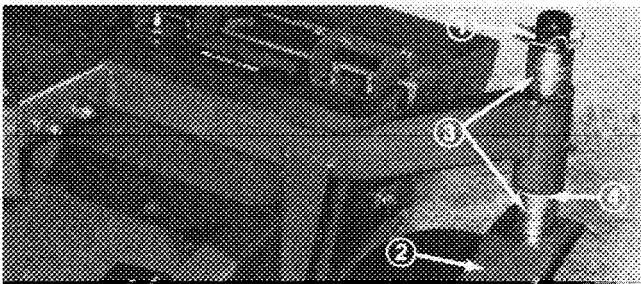
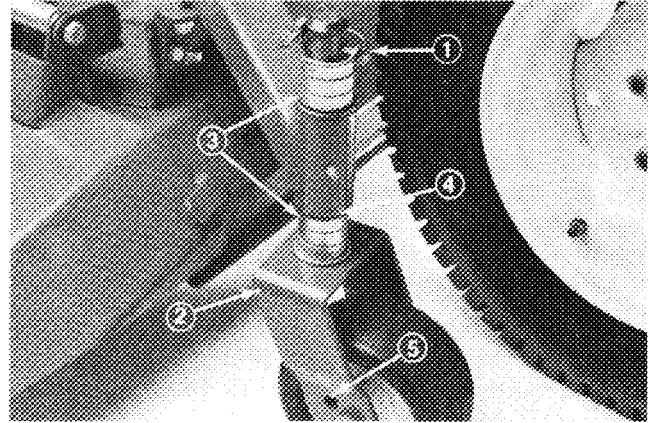

Figure 14
Figure 15
**Note:** A more optimum cutting appearance of the turf can be achieved in the lower heights-of-cut by lowering the rear of the cutting unit. Accomplish this by relocating the rear caster wheel axles in the upper hole of the caster forks (Fig. 15). Replace the axles into the lower caster fork holes for higher height-of-cut settings where optimum cutting appearance is not required.
**IMPORTANT:** Do not attempt to cut off more than one inch (25 mm) of the grass blades in the one (1) inch (25 mm) height-of-cut setting with the rear of the cutting unit lowered, as this may cause the engine to labor excessively.
2. Squeeze back of wire and rotate wire on lynch pin. Pull pin out of caster spindle. Slide spacers onto the caster spindle to get desired height-of-cut (Fig. 14 and 15). Then slide washer (Fig. 14 and 15) onto spindle.
3. Push caster spindle through caster arm. Slide any remaining spacers onto spindle (Fig. 14 and 15). Install lynch pin to retain parts in place.